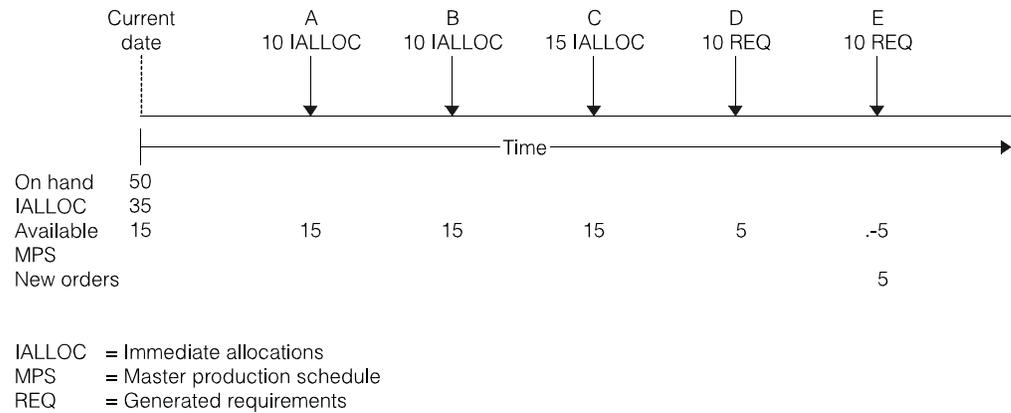
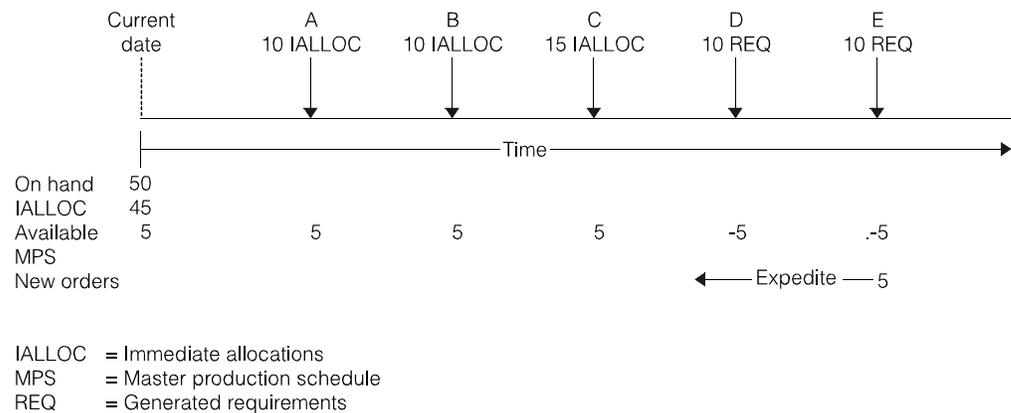
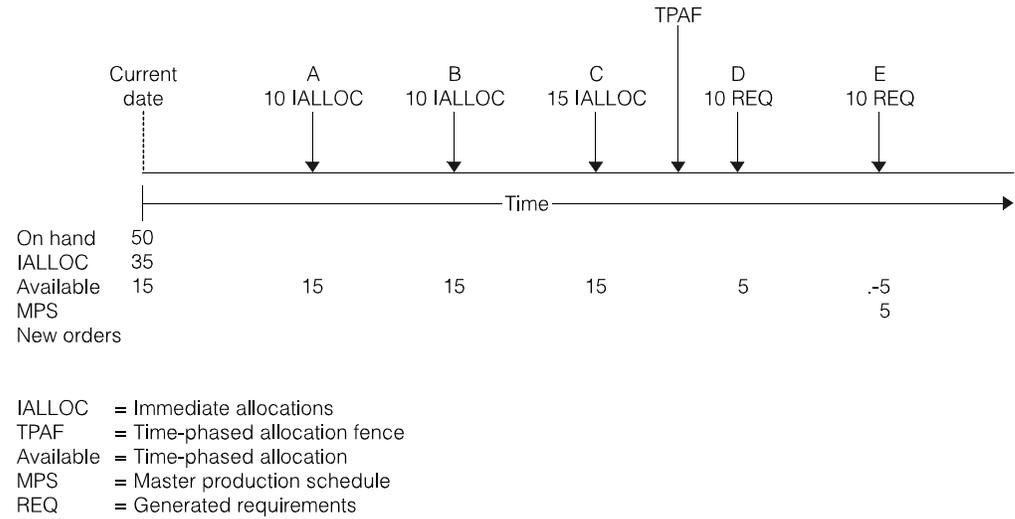

Figure 2-3. Item without time-phased allocations
Figure 2-4. Item without time-phased allocations
Figure 2-5. Item with time-phased allocations
- Case 1: An order for a parent item is released (Figure 2-3, Figure 2-4, and Figure 2-5)
Case 1. In Figure 2-3 you see an example of an item without time-phased allocations. It shows a component item with 35 units immediately allocated and two generated requirements of 10 units each. The generated requirements come from parent items D and E.
Figure 2-3 shows the item when time-phased allocations are not used.
Notice that on the current horizon date MRP subtracts 35 allocated units from the inventory on hand of 50 units; out of the remaining 15 units, it assigns 10 units to requirement D and 5 units to requirement E. Finally, MRP creates a planned order for 5 units to complete the total requirement for E. Let's assume that in the examples following Figure 2-3 the planned order for 5 units has been released and is now an open order. We use this open order to show how to expedite an order to meet the changes in the material plan. Figure 2-4 and Figure 2-5 show the changes that occur when you release an order for the parent of requirement E. In each case, requirement E becomes an allocation when MRP releases an order for the parent item.
In Figure 2-4, notice that when Inventory Management allocates requirement E, the immediate allocations increase from 35 to 45 units. MRP subtracts 45 units from the inventory on hand of 50 units and assigns the remaining 5 units to requirement D. Then, it expedites the open order for 5 units to complete requirement D.
In Figure 2-5 you see the changes that occur when you use a time-phased allocation fence with the data given in Figure 2-4. In this example, the last requirement E is now a time-phased allocation and treated as a future requirement. Because the immediate allocations have not changed, there is no need to issue a message to expedite or create new orders. Figure 2-5 shows the items using time-phased allocations.